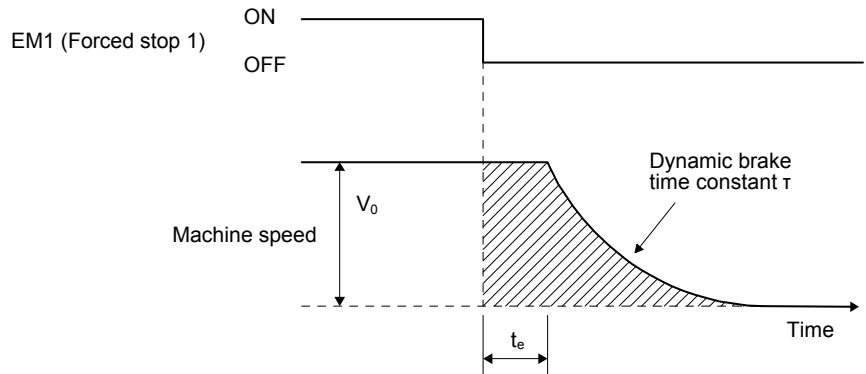

Fig. 18.2 Dynamic brake operation diagram
Fig. 18.2 shows the pattern in which the servo motor comes to a stop when the dynamic brake is operated. Use equation (18.1) to calculate an approximate coasting distance to a stop. The dynamic brake time constant  $\tau$  varies with the servo motor and machine operation speeds. (Refer to (1) (b) of this section.)